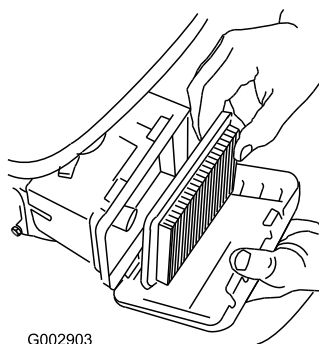

Figure 43
3. Remove the air filter (Figure 43).